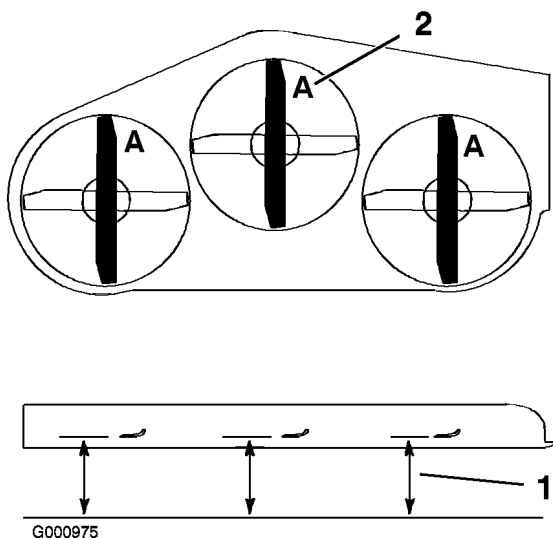

Figure 68
1. Rotate the blades until the ends face forward and backward (Figure 68). Measure from a level surface to the cutting edge, position **A**, of the blades (Figure 68). Note this dimension.